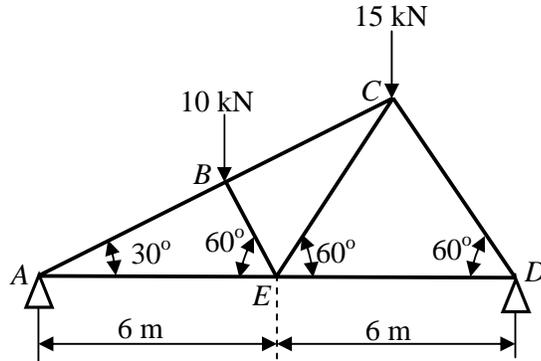

Figure.1.
- 21.a) A two dimensional truss of 12 m span is loaded as shown in Figure.1. Find the forces in the members of the truss by the method of sections only.